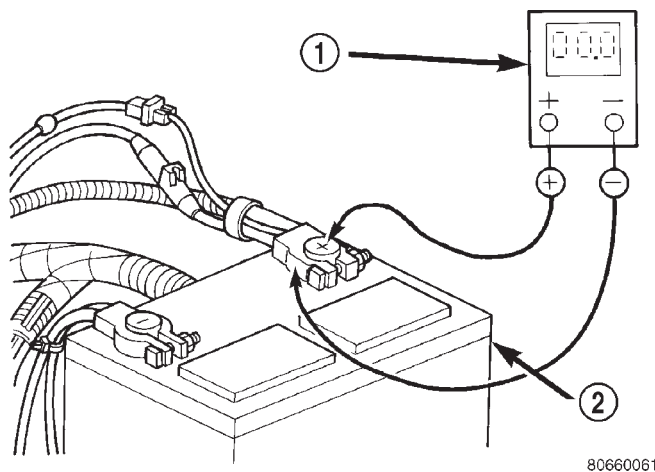

Fig. 3 Test Positive Battery Cable Connection Resistance - Typical
(2) Connect positive lead of voltmeter to positive battery terminal post. Connect negative lead of voltmeter to battery positive cable clamp (Fig. 3). Rotate and hold ignition switch in Start position. Observe voltmeter. If voltage is detected, correct poor contact between cable clamp and terminal post. **Note: Certain diesel equipped models use dual batteries. If equipped with dual battery system, this procedure must be performed twice, once for each battery.**